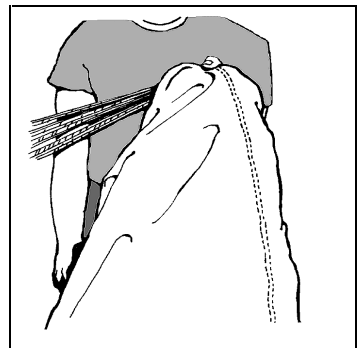

Figure 7.
8.) Place the trailing edge of center cell (indicated by the Data-panel) under the thumb and lift the canopy. (See Figure 7.)